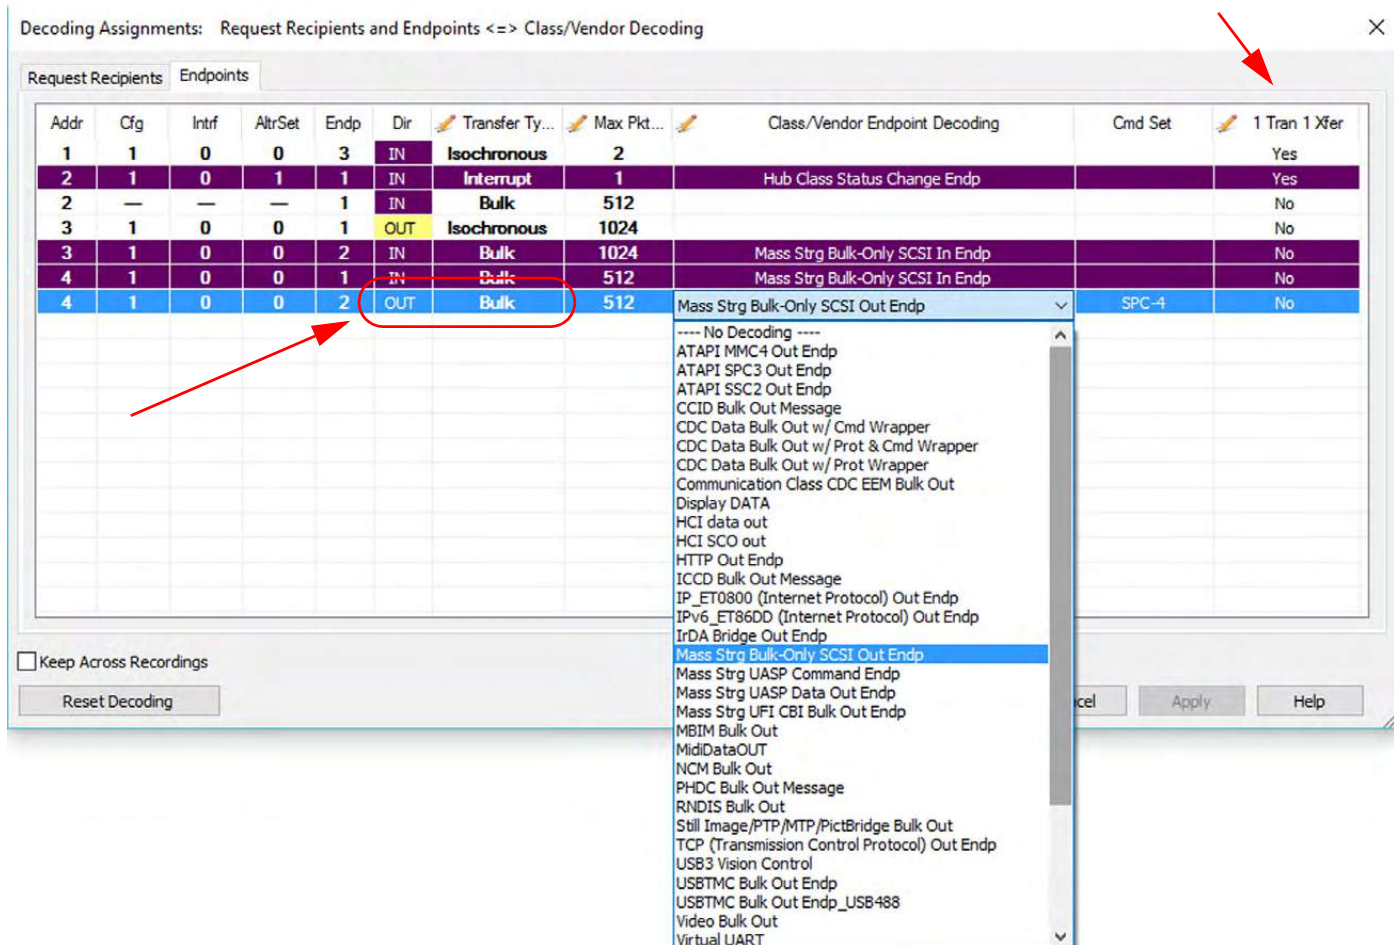

Figure 9.6: Endpoint Decoding Options: IN or OUT Bulk Transfer Type
9. Display the **Class/Vendor Endpoint Decoding** drop-down menu for Bulk IN or OUT transfers (see Figure 9.6):